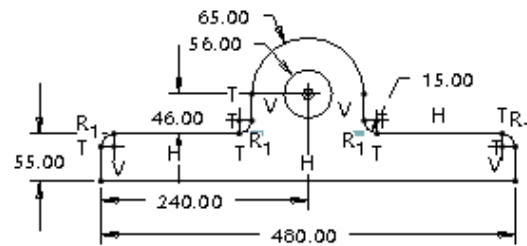

Figure 3-41 Sketch after modifying the dimensions
- e. Modify dimensions of the sketch, refer to Figure 3-41.
The sketch after modifying the dimension values is shown in Figure 3-41.